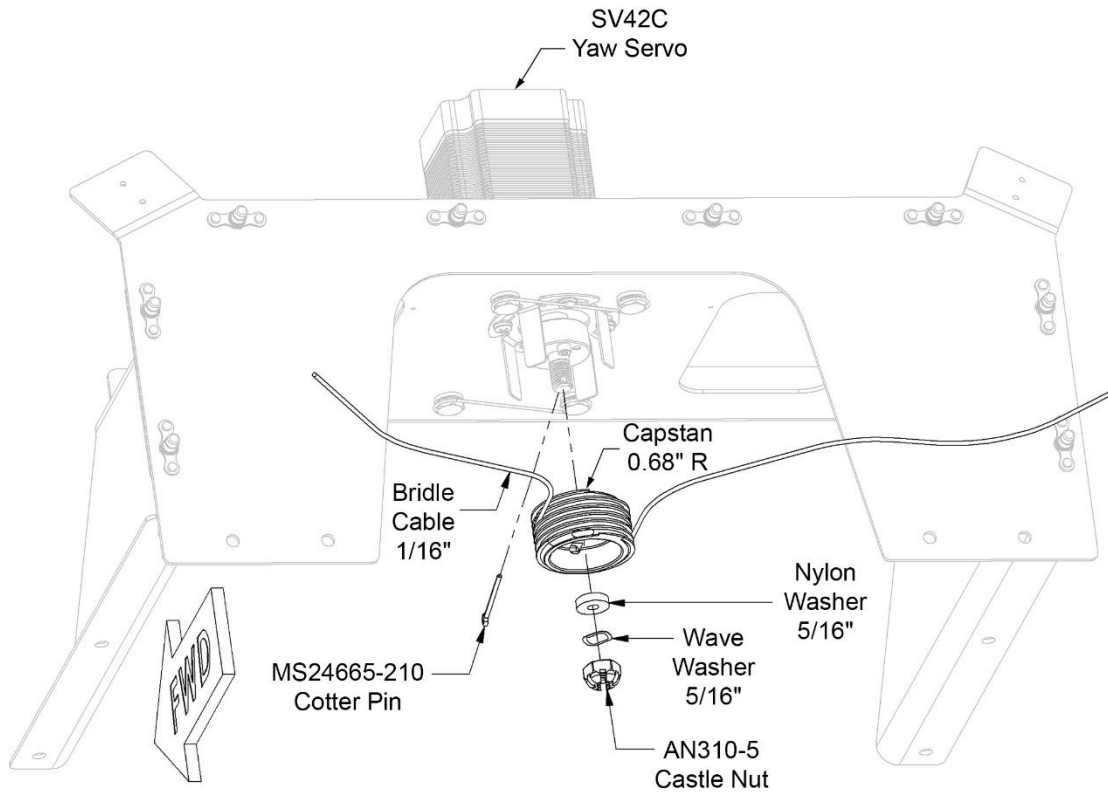

Figure 5: Removing Bridle Cable and Capstan from Yaw Servo
8. Remove bridle cable and capstan from the yaw servo (see Figure 5). **DO NOT** loosen or remove the shear screw from the servo disc!
- a) Remove capstan from yaw servo (see Figure 5).